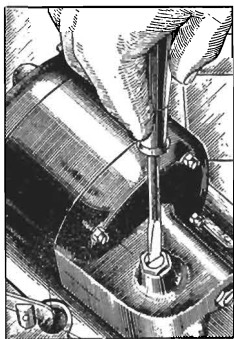

Figure 8—Adjusting spindle height
- (a) Improper turntable spindle height. The height of the turntable spindle nose should be approximately  $\frac{1}{32}$ " above the inside bottom surface of the record magazine. (See Figure 8).
- (b) Turntable spindle shaft too low. This condition will cause binding between the pawl carrier and the clutch wheel. Raise the spindle as shown in Figure 8.
**(13) RETIMING THE MECHANISM**